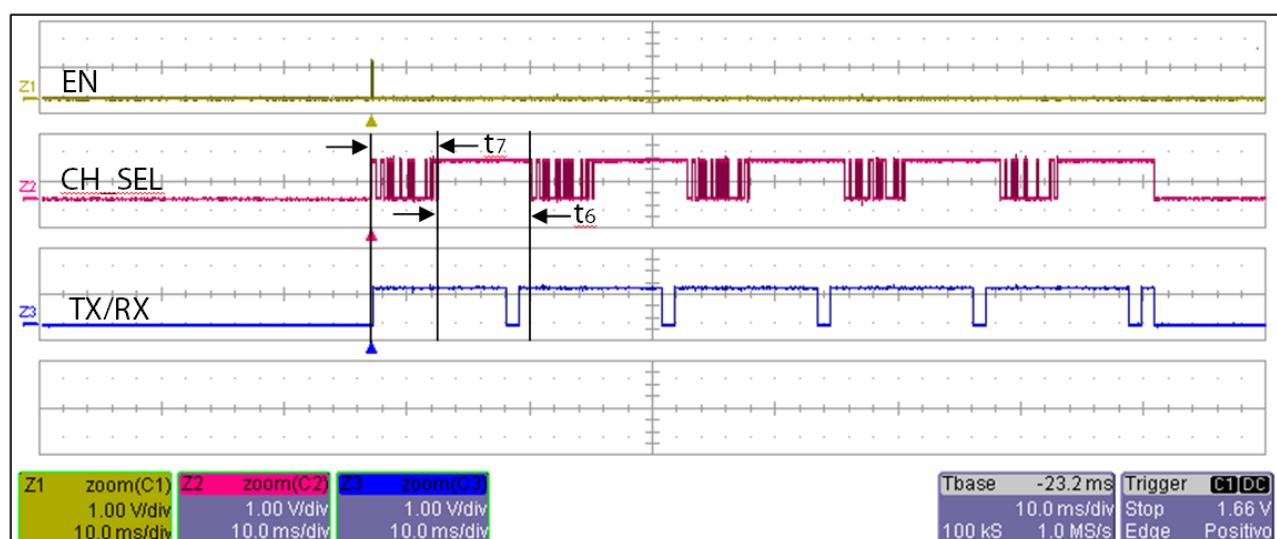

Figure 4: no other data must be present on CH_SEL line during period t_6 elapsed between a frame related to a command (t_7) and the following.
- After programming a single parameter, the user can program other parameters consecutively; the 100 ms time-out is reset at the end of each ACK pulse on the TX / RX line, for each programmed parameter. To avoid errors during the writing of consecutive parameters it is mandatory that during this phase there are no pulses on EN line, and there are no other than programming data on CH_SEL line (see figure 4).